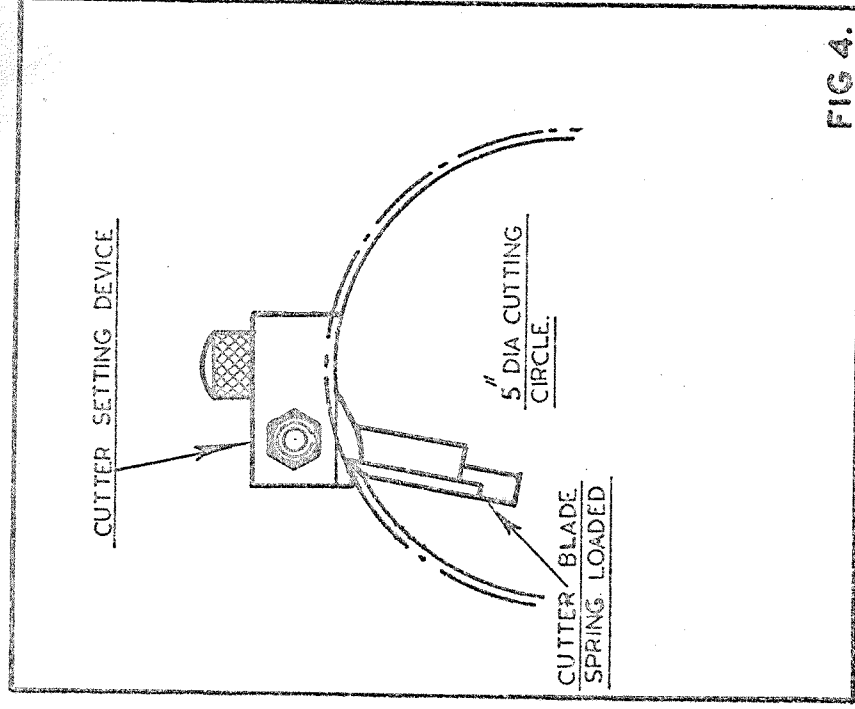

FIG 4.
3. To re-set the knives. Place the knife in the slot making sure that all faces are clean and the clamping bar free from burrs. Press the knife into the cutterblock and lock the setting device to the cutterblock body with the knurled headed screws supplied until the predominant pads rest on the cutterblockbody as shown in Fig. 4. Position the knife central in the cutterblock.